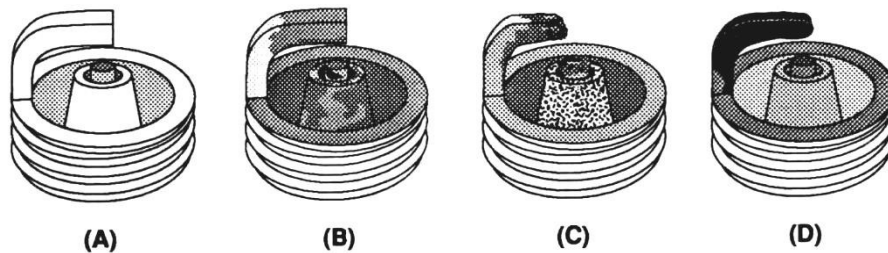

Figure 22 Spark Plug Condition
1. Perform a dynamometer pull or a full throttle pass down the racetrack. Note the power reading or vehicle mph (not e.t.). Examine the spark plugs for an indication of lean or rich nitrous/fuel conditions (refer figure 22 to for tips on reading the spark plugs). For this application, the air/fuel mixtures at WOT tend to be very rich in stock form. You may wish to examine a plug after a NO-nitrous pass or dyno pull for comparison purposes.